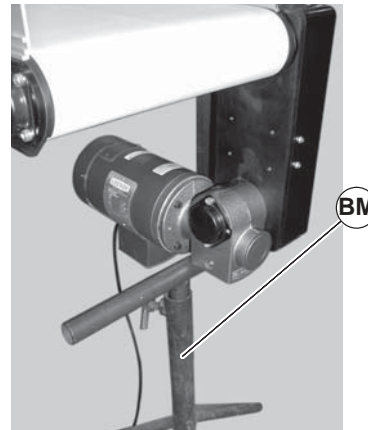

Figure 50
- a. Use a temporary support (Figure 50, item BM) to support Gearmotor.